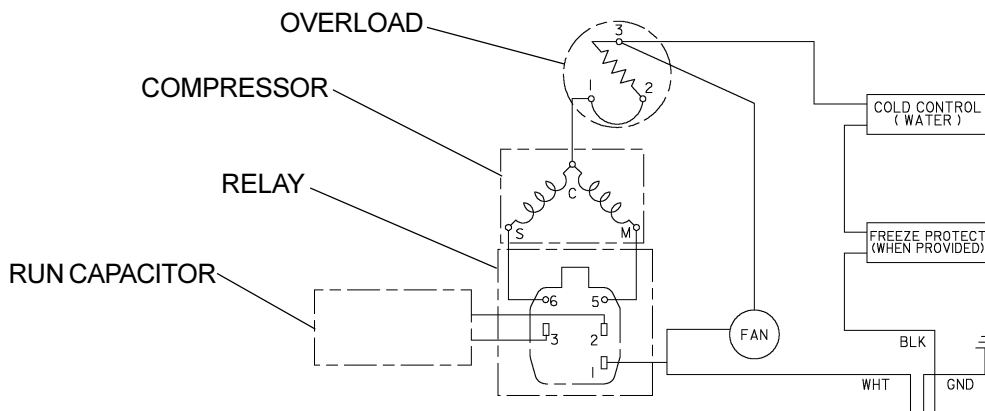

Figure 2.
2. Wire the run capacitor per figure 2.